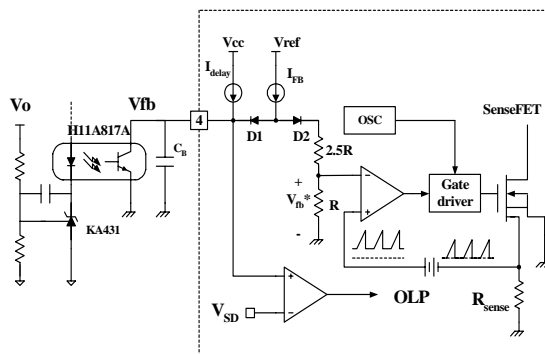

Figure 5. Pulse width modulation (PWM) circuit
**2. Feedback Control :** FSDM07652RB employs current mode control, as shown in Figure 5. An opto-coupler (such as the H11A817A) and shunt regulator (such as the KA431) are typically used to implement the feedback network. Comparing the feedback voltage with the voltage across the Rsense resistor plus an offset voltage makes it possible to control the switching duty cycle. When the reference pin voltage of the KA431 exceeds the internal reference voltage of 2.5V, the H11A817A LED current increases, thus pulling down the feedback voltage and reducing the duty cycle. This event typically happens when the input voltage is increased or the output load is decreased.
**2.1 Pulse-by-pulse current limit:** Because current mode control is employed, the peak current through the Sense FET is limited by the inverting input of PWM comparator (Vfb\*) as shown in Figure 5. Assuming that the 0.9mA current source flows only through the internal resistor (2.5R + R = 2.8 kΩ), the cathode voltage of diode D2 is about 2.5V. Since D1 is blocked when the feedback voltage (Vfb) exceeds 2.5V, the maximum voltage of the cathode of D2 is clamped at this voltage, thus clamping Vfb\*. Therefore, the peak value of the current through the Sense FET is limited.